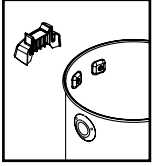

FIGURE 13
16. Remove any webbing that attaches the tank handles to each other. Take the side tank handle with the letter **L** and position it on the outside of the tank where the support assemblies are installed. Secure the handle to the tank with the screws in the support assemblies. **FIGURE 13.**